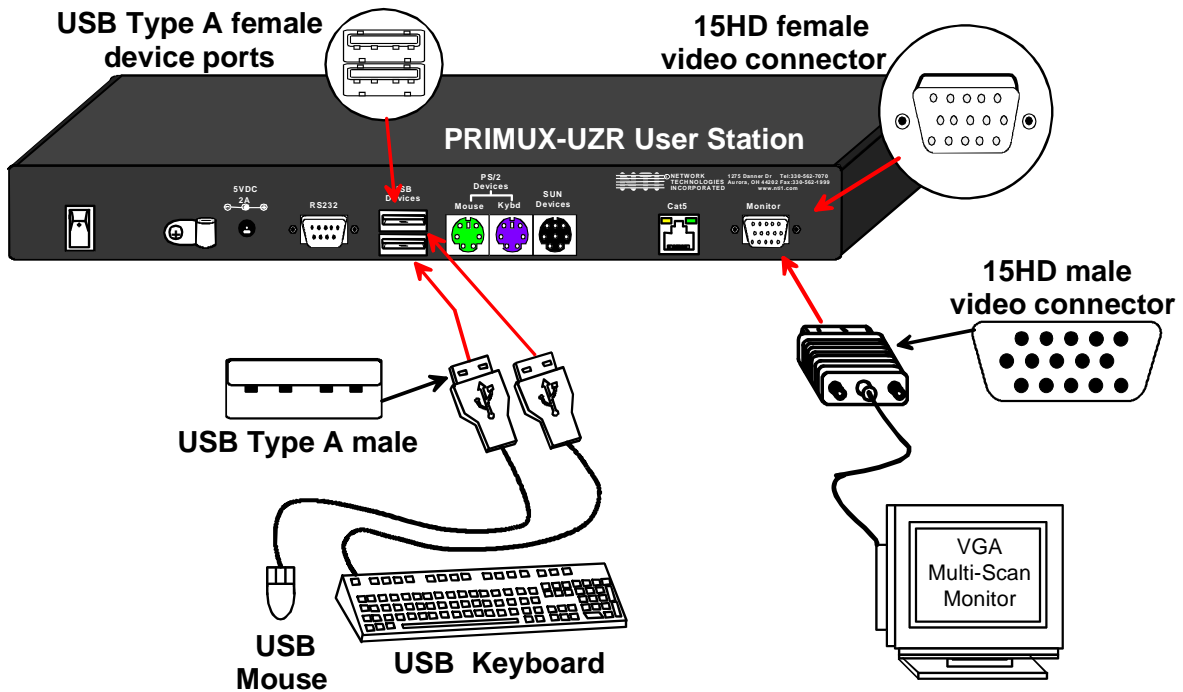

Figure 11- Connect extended USB components to the User Station
3. Connect the USB device(s) to the User Station (see Figure 11).